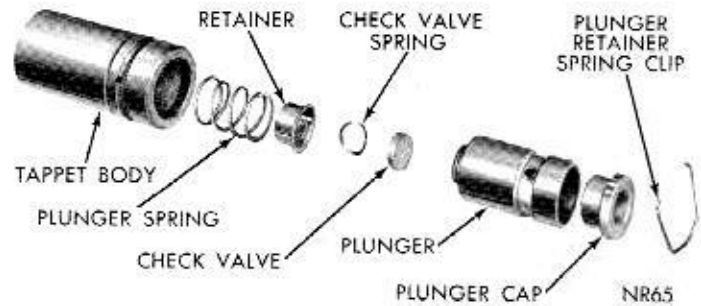

Fig. 17—Hydraulic Tappet Assembly (Disassembled View)
Disassembly (Fig. 17)
(1) Clean all tappet parts in a solvent that will remove all varnish and carbon.
(2) Replace tappets that are unfit for further service with new assemblies.
(3) If plunger shows signs of scoring or wear and valve is pitted, or if valve seat or end of plunger indicates any condition that would prevent valve from seating, install a new tappet assembly.
(4) Assemble tappets (Fig. 17).